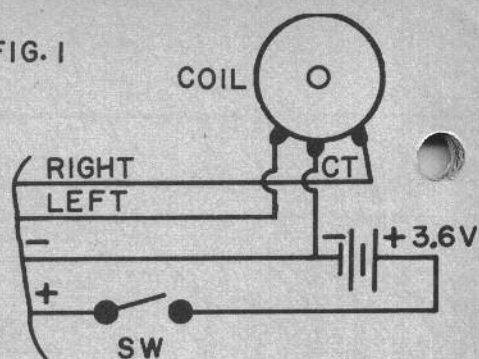

FIG. 2
Fig. 2 is a circuit for a receiver at 3 or 3.6 volts using either alkaline batteries of the pencil type, or 100-mah nickel-cadmiums. The actuator supply here is either four alkali pencils (shorter life—200-ma drain) or five 450-mah nickel-cadmiums. Note that it is necessary to switch off both the positive and negative leads to the receiver whenever the actuator is to be overexcited with more than the normal 3 or 3.6 volts.
1. Frame is constructed from 1/16" aluminum sheet; fold on the dotted lines to achieve figure 2. Dimensions are approximate and are not critical.